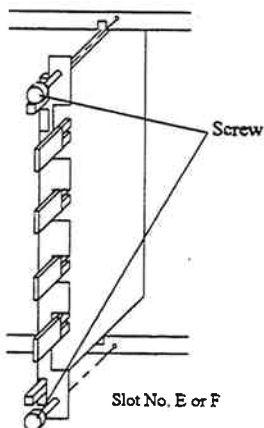

Fig. 3.7.5.4.2-2 Removal of PCB
- b. Fasten the two screws referring to Fig. 3.7.5.4.2-2.